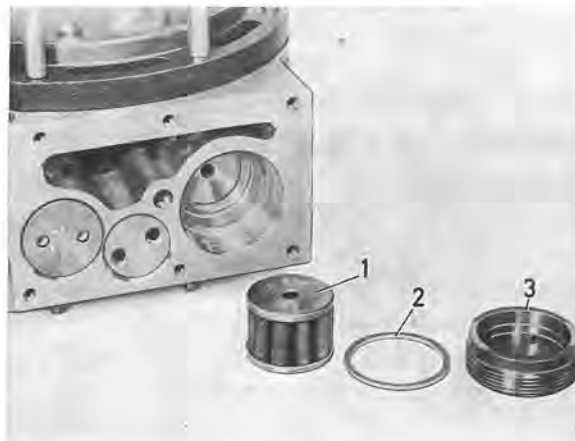

Fig. 4-49. Fine filter
2. Remove the plug and take out the seal and fine filter, see Fig. 4-49.